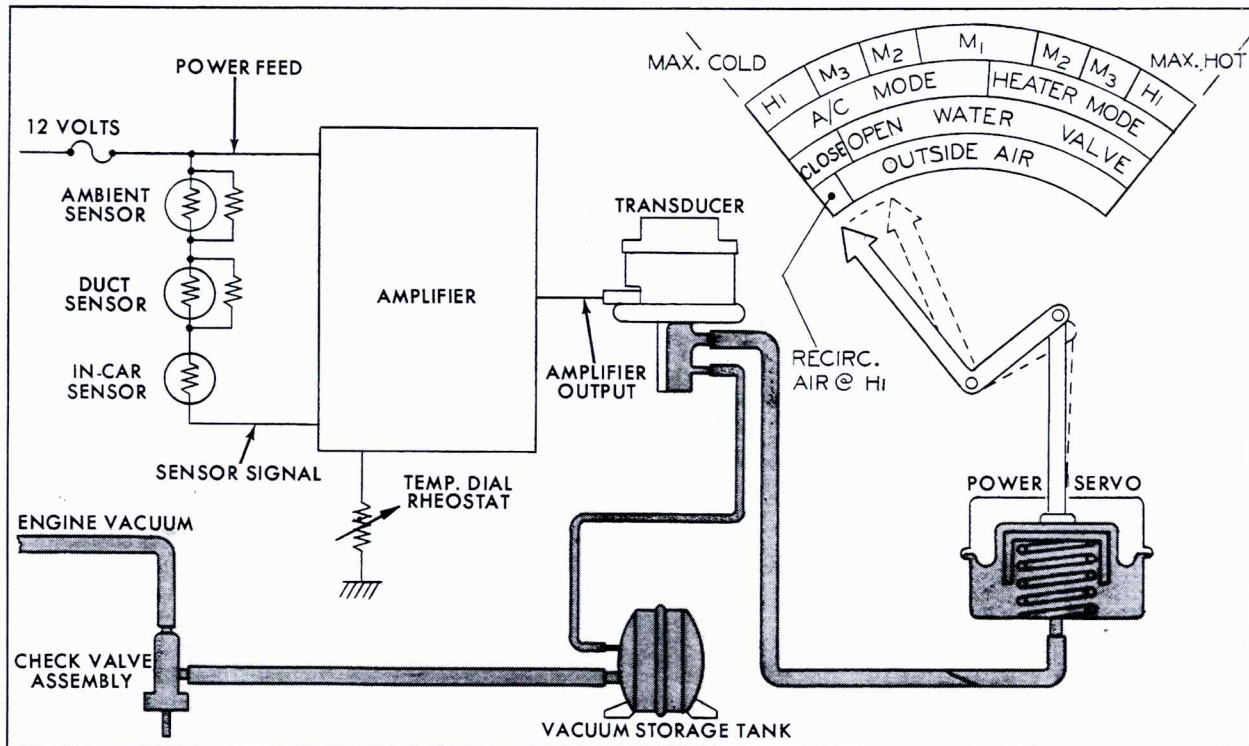

Fig. 1-17 Temperature Control Circuit
a. Temperature Control Circuit (Fig. 1-17)